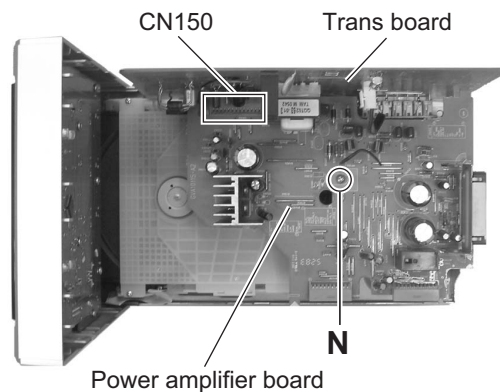

Fig.9
3.1.8 Removing the power amplifier board (See Fig.9)